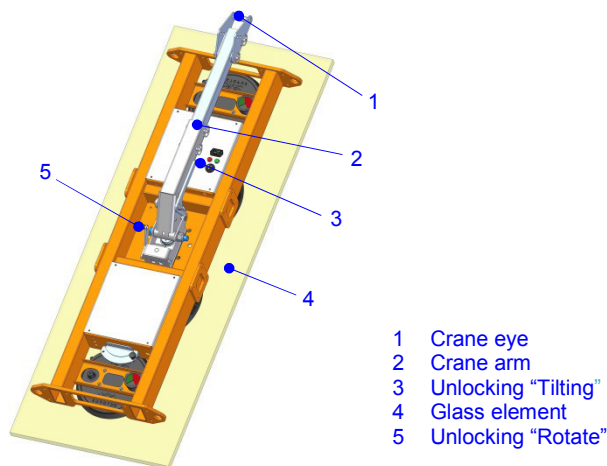

Fig. 10: OKTOPUS® GLASS-Jack GL-LN 700 with vertical glass element
**To avoid unintended load rotations, make sure that the unlocking lever “Rotate” (see fig. 10) is latched. The unlocking lever “Tilting” has to be released and the crane arm to be upright!**
**To avoid unintended load rotation or tilting, make sure that the unlocking levers (see fig. 10) are latched!**
- ⇒ Release the unlocking “Rotation” (see fig. 10) and rotate the load to the required position. After that latch the unlocking handle.
- ⇒ Release the unlocking “Tilting” (see fig. 10) and position the load horizontally.